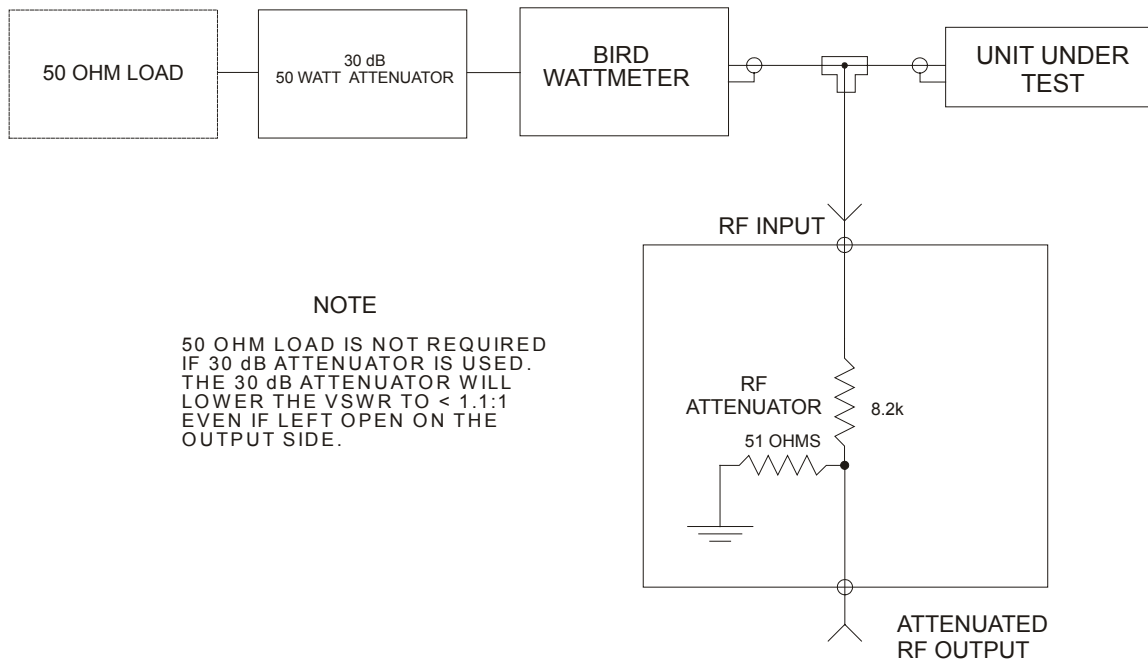

Figure 5-1. 40 dB Attenuator Circuit
- 40 dB Attenuator Circuit—Shown in Figure 5-1